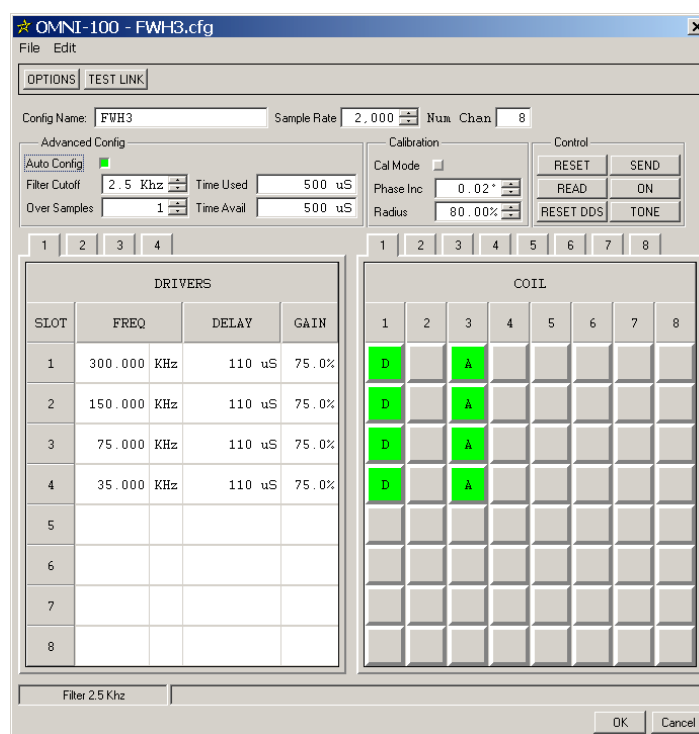

Figure 10-7. OMNI Test Config Dialog
- STEP 22:** The **OMNI Test Config** dialog should now appear setup as shown in Figure 10-7 below. Click **OK** on the **OMNI Test Config** dialog.